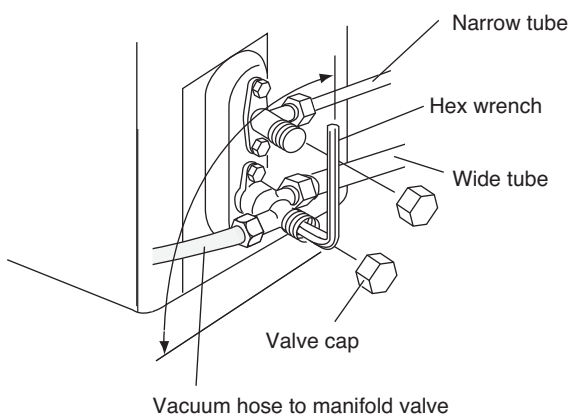
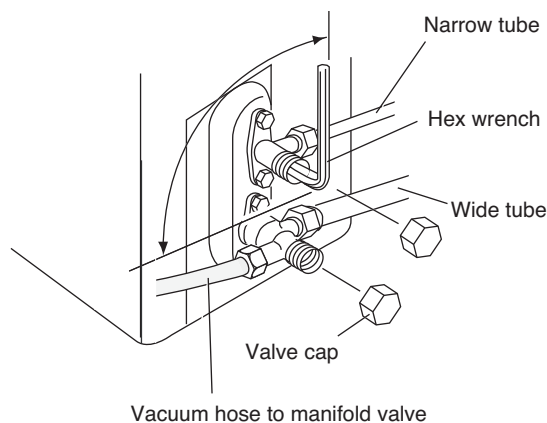

Fig. 41
Fig. 40
- (2) Using a hex wrench, turn the narrow tube service valve clockwise all the way to close the service valve (Fig. 40). (Be sure to confirm that the wide tube service valve is fully open.)
- (3) Press the ON/OFF button and start cooling operation.
- (4) When the low pressure gauge reading falls from 1 to 0.5 kg/cm2, fully close the wide tube valve stem (Fig. 41). Then quickly stop the unit.
- (5) Disconnect all gauges and hoses, and replace the valve caps as they were before.